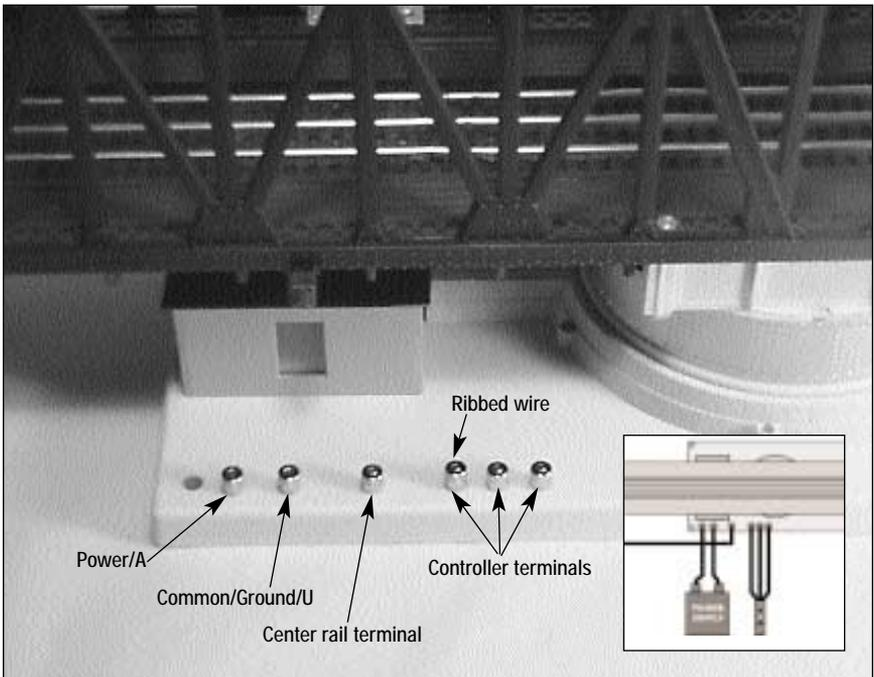
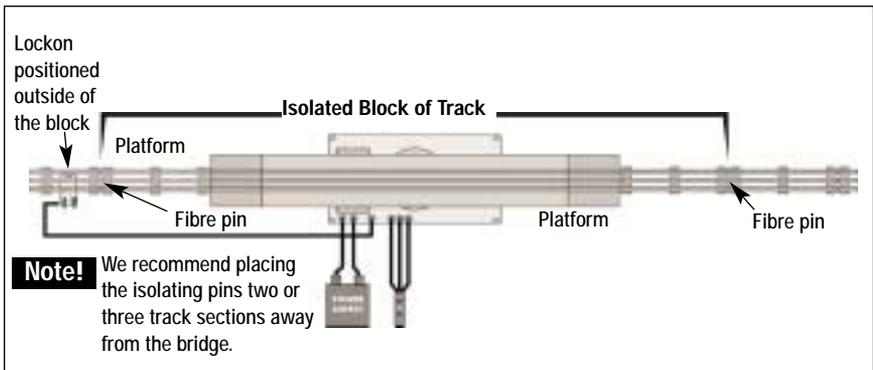

Figure 1. Swing Bridge connections
Figure 4. Swing Bridge terminals
3. Connect your power supply to the power terminals on the bridge. One terminal is connected to the Power/A terminal on the power supply. The other terminal is connected to the Common/Ground/U terminal on the power supply. Your Swing Bridge operates best at 12-18 volts (AC). Refer to Figure 1.
4. Connect the control lever. Attach the ribbed strand to the left CONTROLLER terminal, the middle strand to the middle terminal, and the remaining strand to the right terminal. Refer to Figure 1 on page 4. If the bridge does not operate in both directions, swap the wires at the outside controller terminals.
To protect your trains from falling off the end of the track, we recommend that you create an electrically isolated block of track for the Swing Bridge. With the isolated block, the Swing Bridge is located on a section of track that can be turned off independently from the rest of your layout. When the bridge is open, the entire block of track will become “dead,” preventing trains from traveling over that track section. Refer to Figure 4.
Finally, attach a Lionel Lockon (available separately, 6-62900) to the track outside of the block. Attach a wire to the #1 terminal on the Lockon and connect it to the center rail thumbscrew terminal on the base of the bridge. Refer to Figure 1 for the location of this terminal. This connection is illustrated in Figure 4.